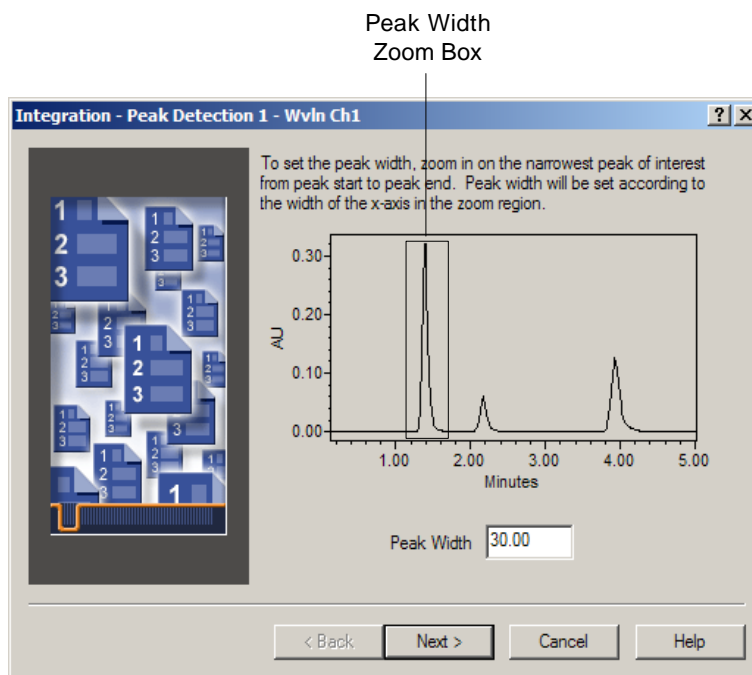

Figure 3-6 Integration - Peak Detection 1 Page, Full View
- From the Processing Type list, select **PDA**. If the Integration Algorithm list is present, select **Traditional**. Make sure the **Use Processing Method Wizard** check box is selected, then click **OK** to go to the Integration - Peak Detection 1 page (Figure 3-6).